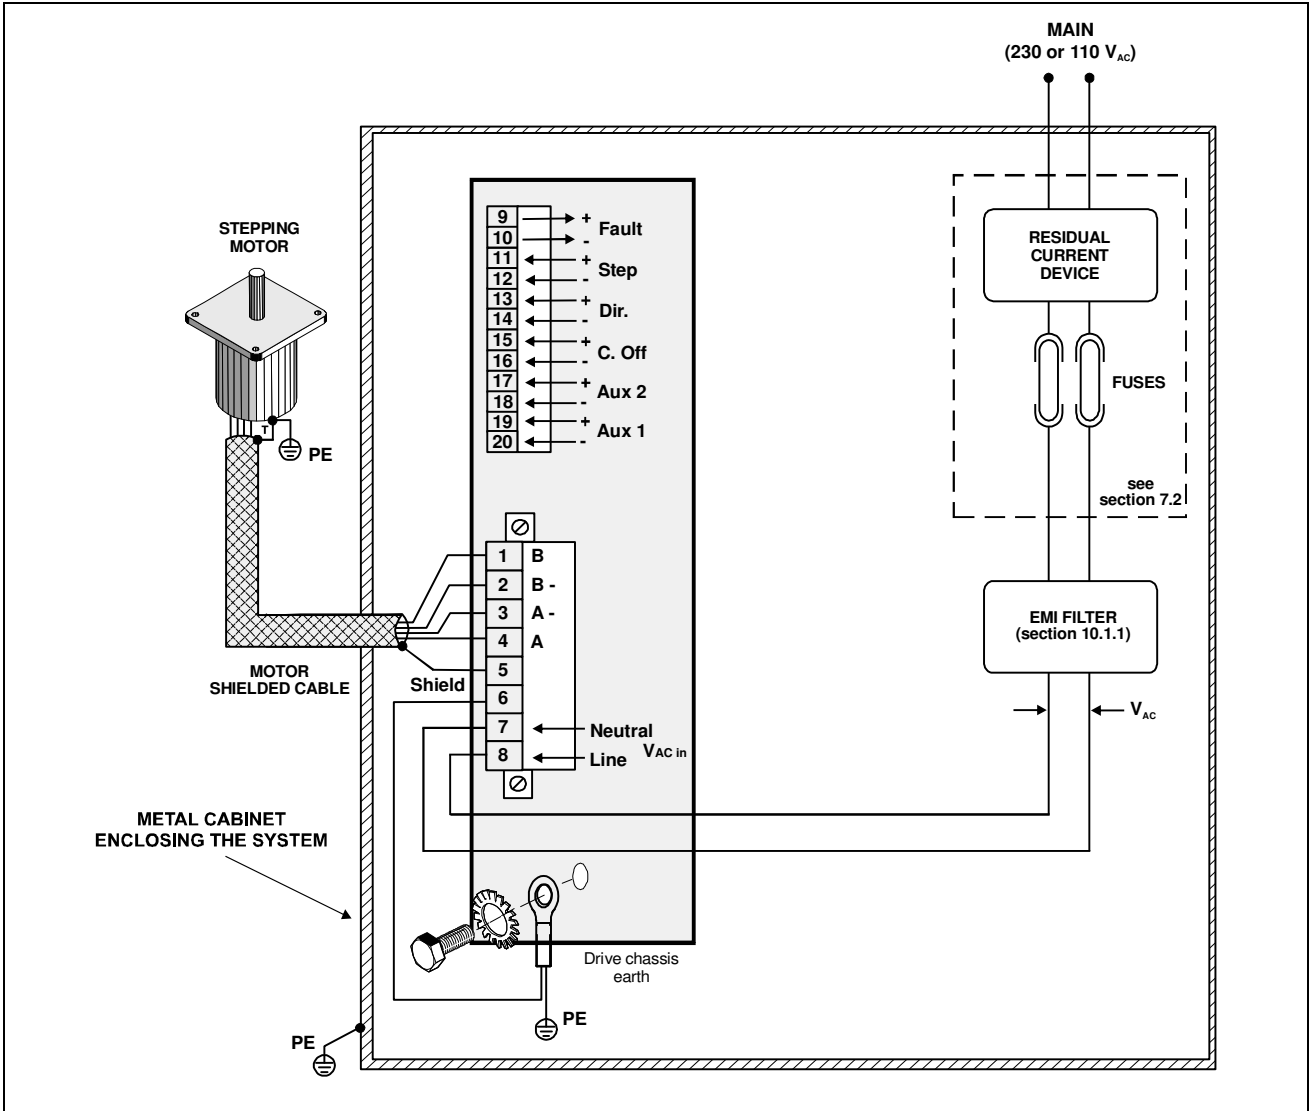

Fig. 5 – Drive external connections scheme.
Protection systems indicated in Fig. 5 must include:
- Interpose an EMI filter in AC power input line (see Fig. 5) in order to reduce conducted electromagnetic interferences. Filter characteristics in a specific installation depend on following factors: